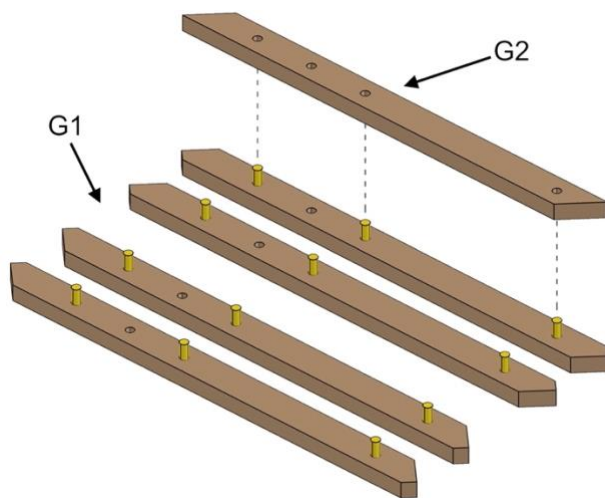

Fig. 19
- Attach the G2 pieces to the G1 pieces, as shown in Fig. 19.